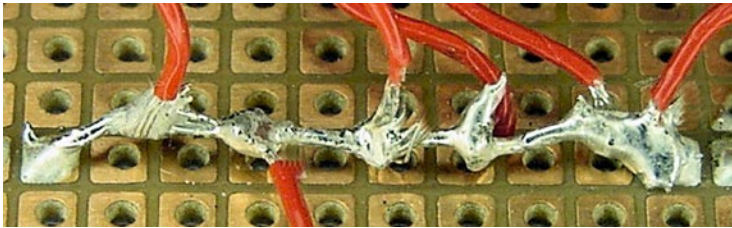

Figure 23-14. Positive-voltage distribution bus on which many wires are soldered
5. Now, whenever a module circuit needs access to positive power, simply solder a wire to the bare wire that forms the positive-voltage distribution bus (see Figure 23-14).